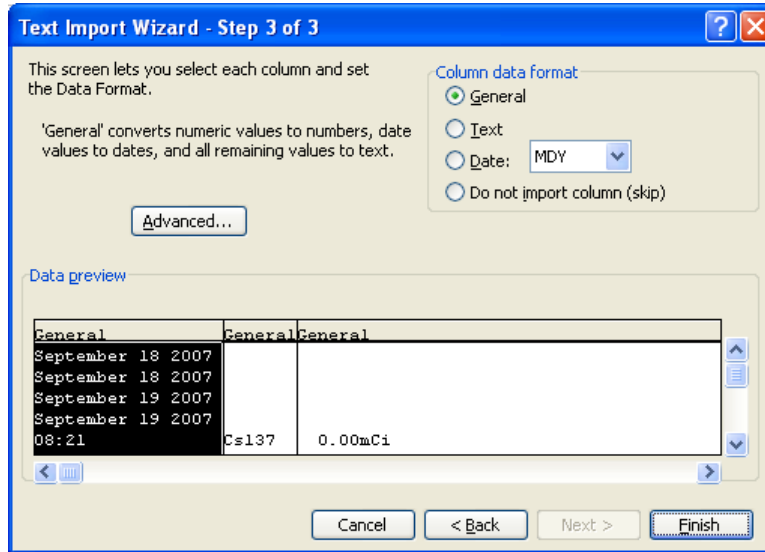

Figure 25
3. Verify that the options are set as above. Click the Next> button. Figure 25 will appear.